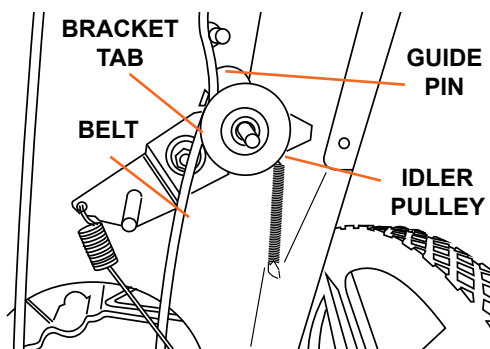

Figure 19
9. Install the small spacer and v-groove idler pulley. Position the idler link over the idlers and secure with the two locknuts using a 13mm wrench (Figure 19).